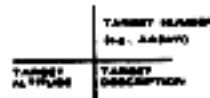

Figure 3-2. Standard Target
(1) Standard Target. A standard target normally is a target area 200 meters (m) in size. Minimum accuracy of the target location on the target list is a six-digit or eight-digit grid (Figure 3-2). The symbol for a standard target is a cross with relevant information and the quadrants as shown.